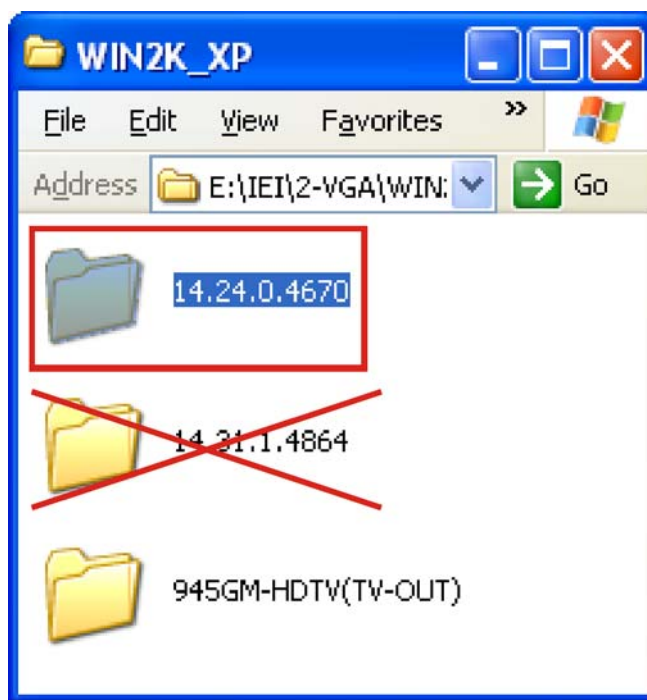

Figure 7-9: VGA Driver Directory
Step 3: Browse to “2-VGA\your-operating-system” for Windows installations, select the folder shown in Figure 7-9 below.